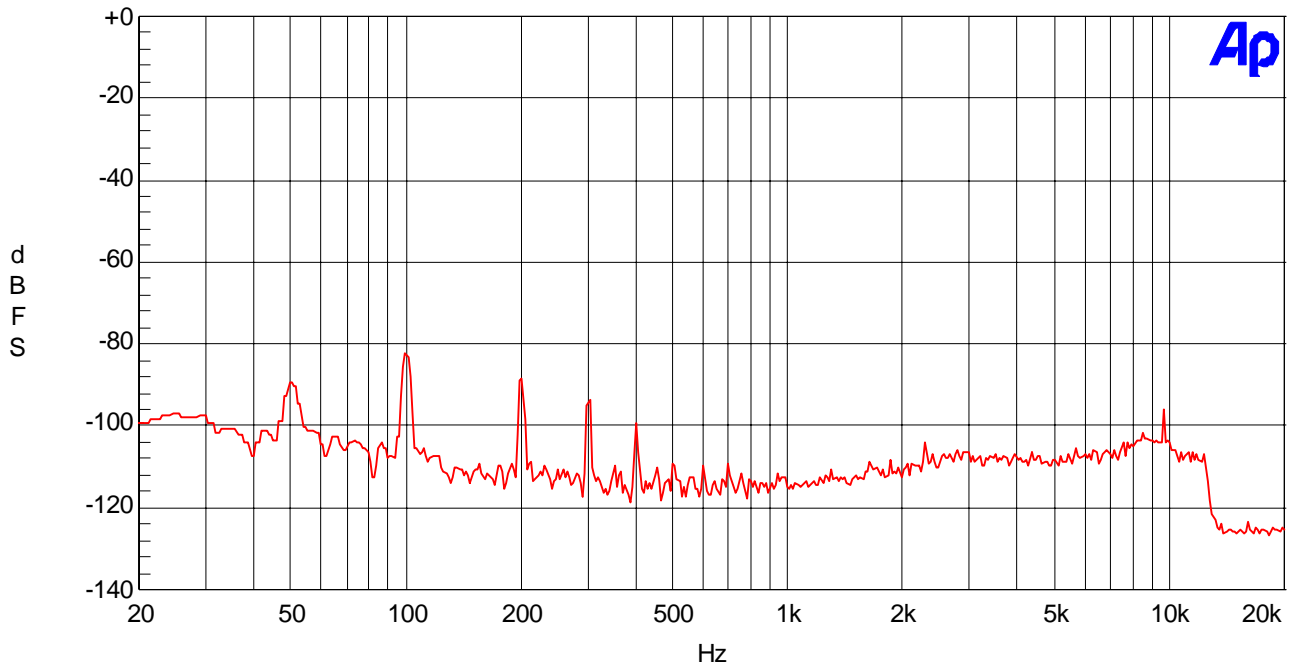

Figure 15. FFT Plot (no input)
- Figure 15. FFT Plot (no input)